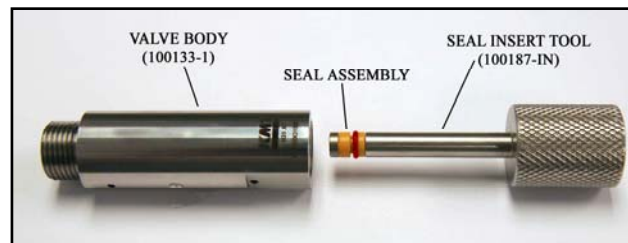

FIGURE 9
21. Press the Seal Insertion Tool/Seal Assembly into the Valve Body (100133-1) until it bottoms. **See Figure 9.**